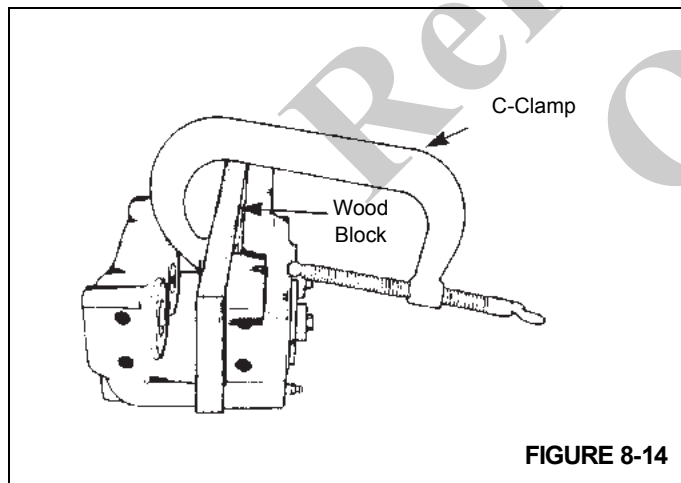

FIGURE 8-14
- a. Use a C-clamp to hold a 0.5 in (12.7 mm) block of wood against two pistons on the mounting side of the housing. Ensure the C-clamp is not in the area in front of the piston bore. Refer to Figure 8-14.